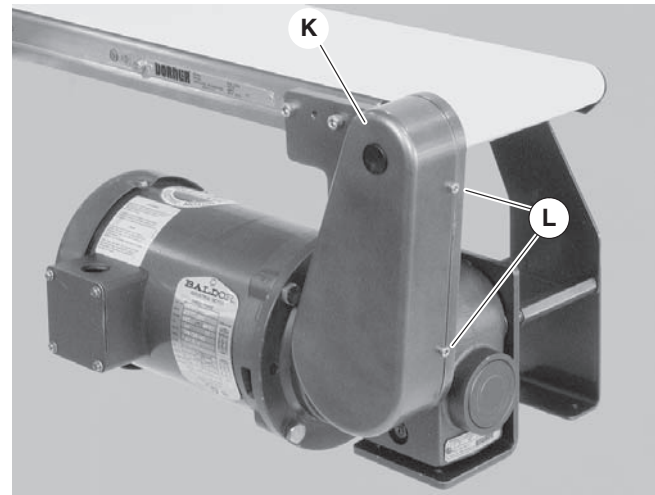

Figure 19
14. Install cover (Figure 19, item K) with four screws (L). Tighten to 35 in-lb (4 Nm).
1. Remove four (4) screws (Figure 19, item L) and remove cover (K).
4. Install cover (Figure 19, item K) with four (4) screws (L). Tighten to 35 in-lb (4 Nm).
6. Install cover (Figure 19, item K) with four (4) screws (L). Tighten to 35 in-lb (4 Nm).